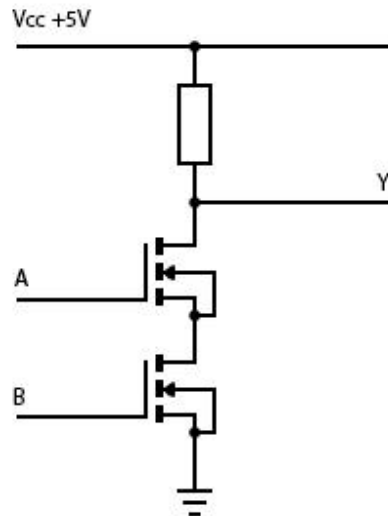

Fig 2.1
- It can therefore be concluded that the circuit as seen in *Fig 2.1* acts as a Boolean NAND Gate. All output voltages are HIGH besides when the control voltages are both HIGH. The results as seen above directly coincide with that of the truth table of a NAND Gate.